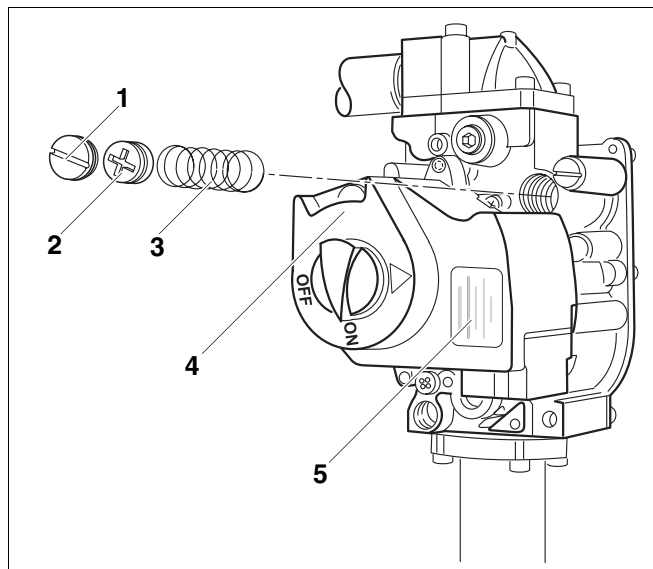

Fig. 5 Gas valve on the GC124 II
14. Remove the safety screw (→ Fig. 5) for the manifold pressure adjustment on the gas valve.
15. Remove manifold pressure adjustment screw (→ Fig. 5).
16. Remove stainless steel spiral spring (→ Fig. 5).
20. Clean the gas valve housing (→ Fig. 5) and attach the yellow label from the Honeywell LP conversion kit to a visible spot on the gas valve.